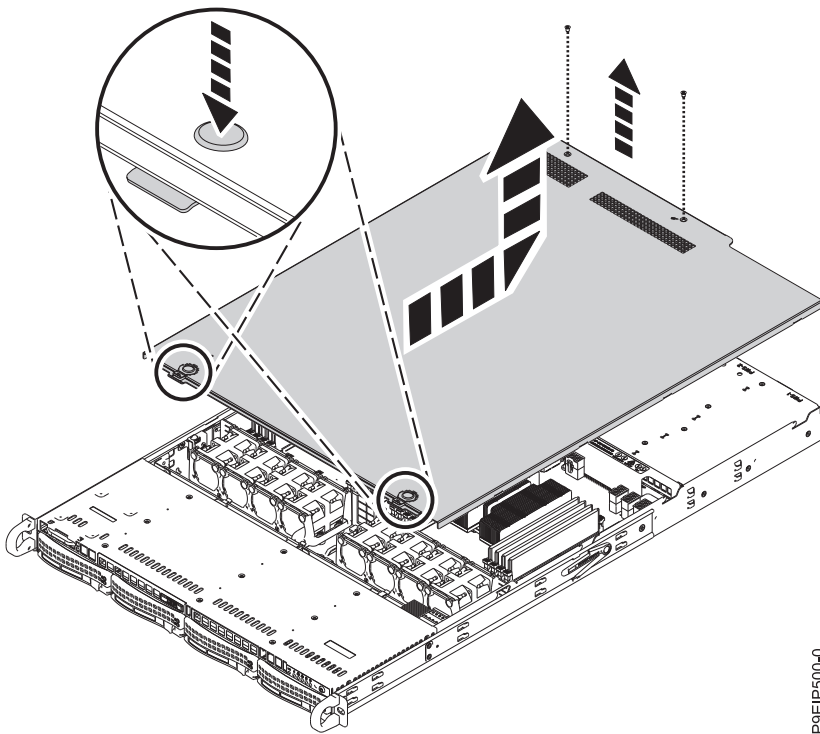

Figure 70. Releasing and opening the cover
2. Remove the two cover screws (1), from the rear of the cover.
3. Press both buttons on the top cover (2) to release the latches as shown in Figure 70, and push the cover back about 0.5 in (1 cm) until it stops. If the buttons do not easily press down, partially remove the drives directly under the buttons.